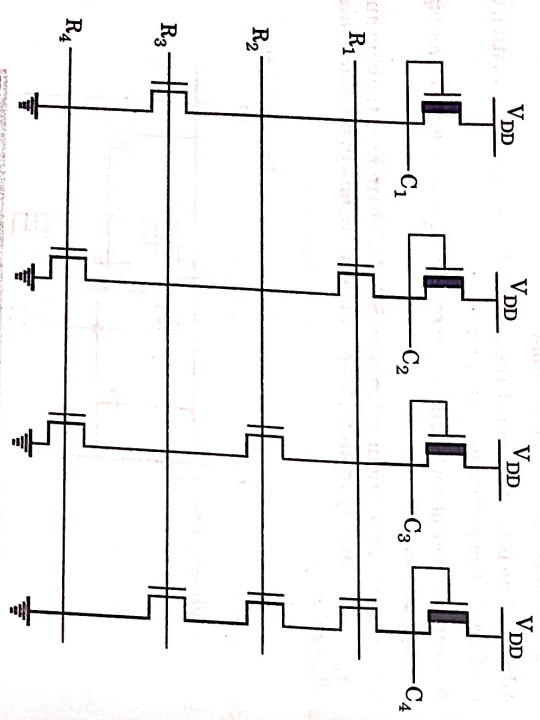

Fig. 4.6.1. 4 bit x 4 bit NAND-based ROM array.
1. Fig. 4.6.1 shows a NAND-based ROM array.